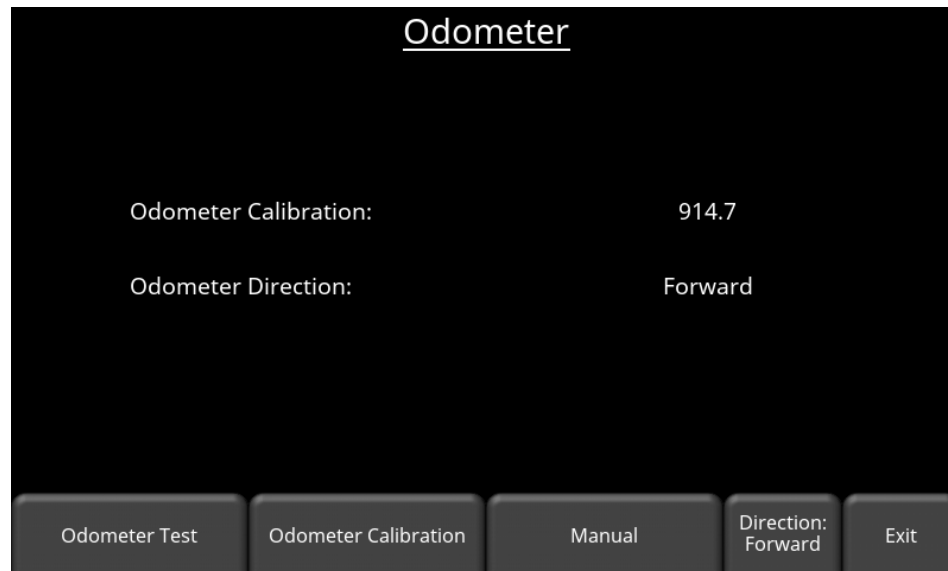

Figure 6-17: Edit Odometer screen
- **Odometer** – If you have a setup containing a wheel, then you will likely use this option. As the odometer wheel moves one step size, it will cause the transmitter to fire. This is the easiest mode to operate in, as you don't have to worry about collecting data at equally spaced intervals. Pressing the **Edit Odometer** button takes you to the screen in Figure 6-17, where you can setup and calibrate the odometer if you haven't already. Essentially this is the same as the odometer test screen \(0\).